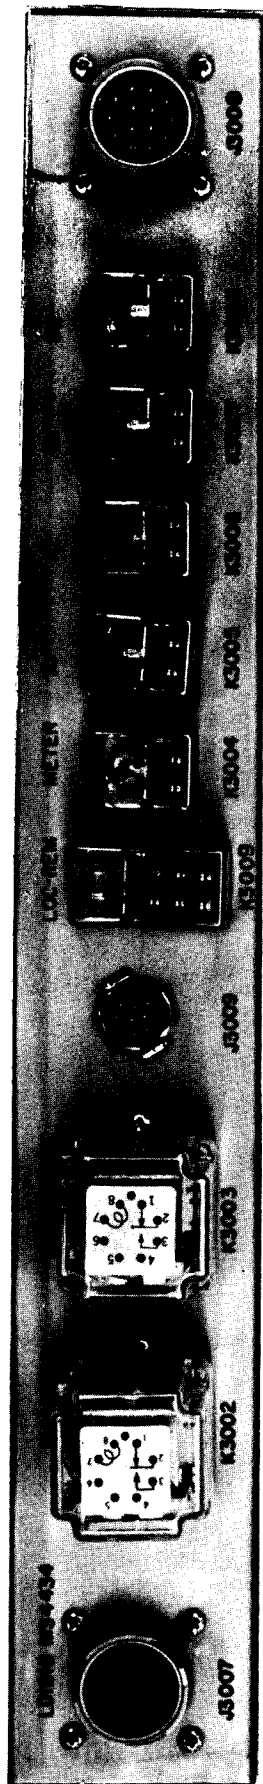

Figure 1-1. Relay Panel Assembly, Model AX566
Relay Panel Assembly, Model AX566 (figure 1-1), contains eight continuous-duty 24-volt d-c relays that can function to control external equipment. The relays may be operated by either local or remote signals.
a. Secure the unit with six 6/32 machine screws. Provide sufficient space for access to the panel-mounted connector receptacles (J3007, J3008, and J3009) illustrated in figure 1-1.